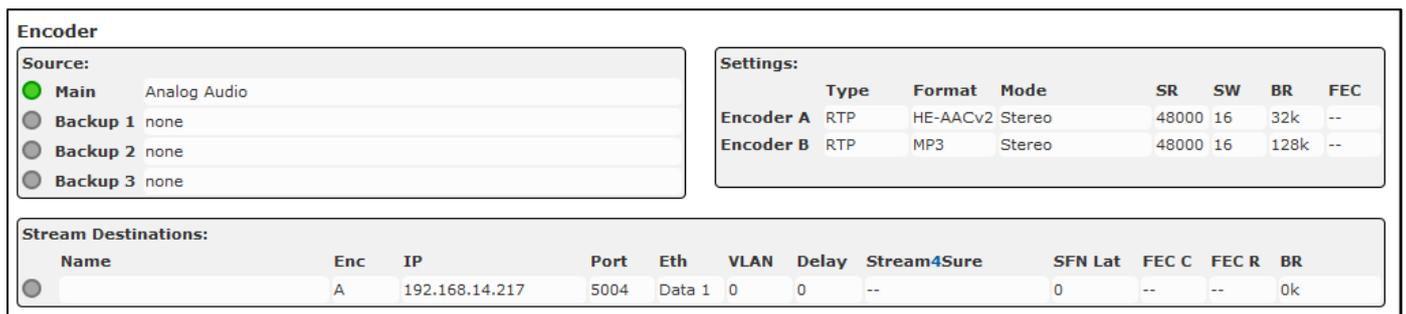

Figure 29: System Information – Encoder State
1. Under **Information**→**Overview** you can see the details of the configured parameters of the encoding signal in *Encoder* field (see Figure 29).